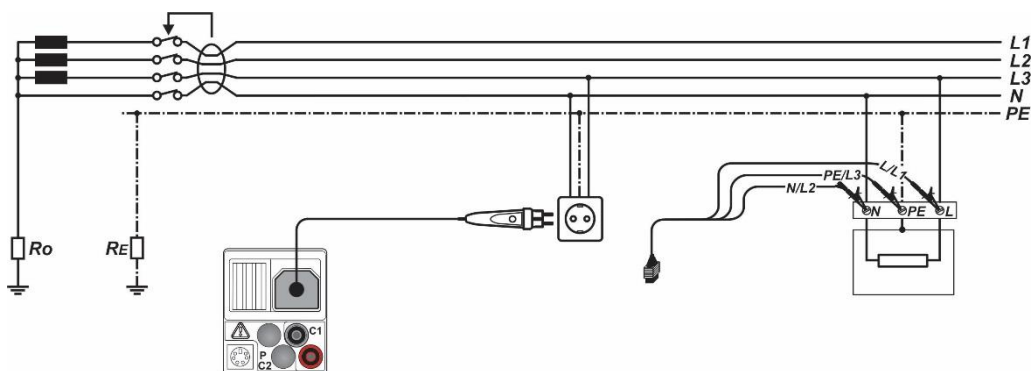

Figure 5.20: Connecting the plug commander and the 3-wire test lead
- ❑ **Connect** test leads to the item to be tested (see *Figure 5.20*).
- Connect** test leads to the item to be tested (see *Figure 5.20*).
<ul style="list-style-type: none"> <input type="checkbox"/> Select the RCD function using the function selector keys. <input type="checkbox"/> Set sub-function to AUTO using UP / DOWN keys. <input type="checkbox"/> Set test parameters (if necessary). <input type="checkbox"/> Connect test cable to the instrument. <input type="checkbox"/> Connect test leads to the item to be tested (see Figure 5.20). <input type="checkbox"/> Press the TEST key to perform the test. 	Start of test